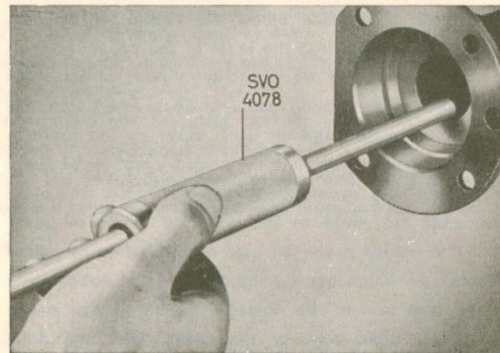

Fig. 5-3. Removing an oil seal
3. Pull out the oil seal by using tool SVO 4078, Fig. 5-3.
4. Remove the oil seals (14) with the help of puller SVO 4078, see Fig. 5-3.